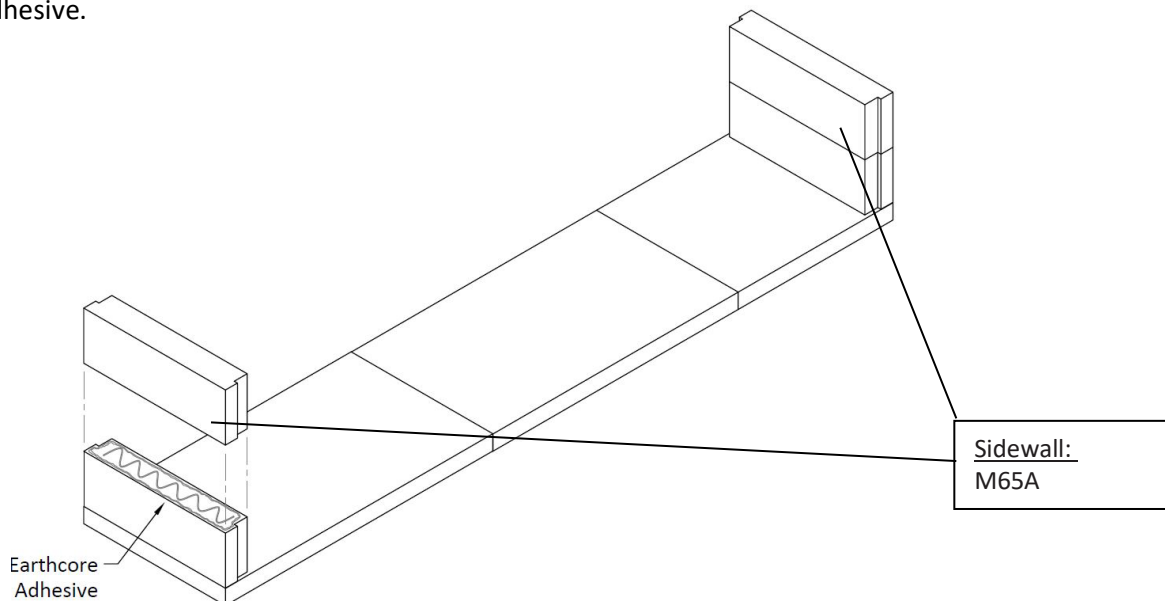

FIGURE 10
- 3) Continue assembly of the consecutive courses of the firebox side walls. Apply Earthcore Adhesive to the top of each layer of side wall components before setting the next course in place (**Figure 10**). Look for some Earthcore Adhesive to squeeze out along the joints of all contact surfaces as a sign that the joint is thoroughly sealed with the approved Earthcore Adhesive.